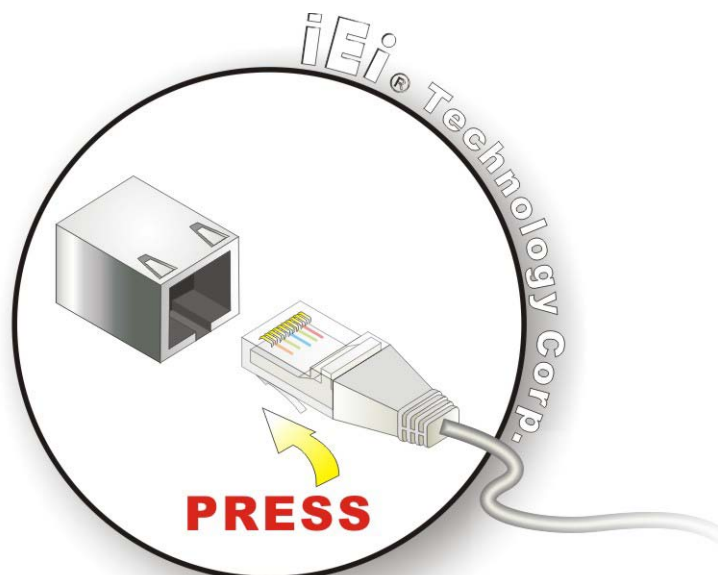

Figure 4-27: LAN Connection
Step 2: Align the connectors. Align the RJ-45 connector on the LAN cable with one of the RJ-45 connectors on the AFL2-W21A/AB-H61. See **Figure 4-27**.